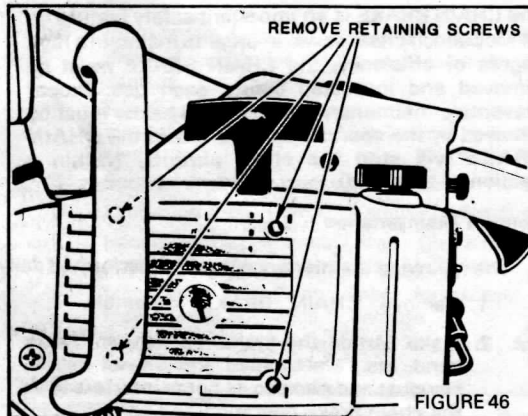

FIGURE 46
1. Remove the four (4) starter cover retaining screws and the starter cover. (Figure 46).